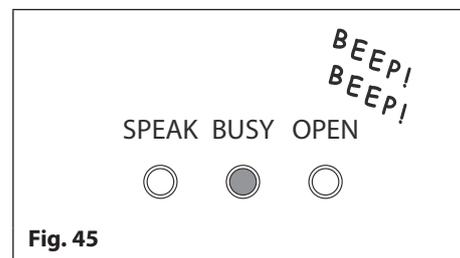

Fig. 45
4. Two short beeps will be heard from the GSM module and the busy LED will switch ON, as shown in **Fig.45**;